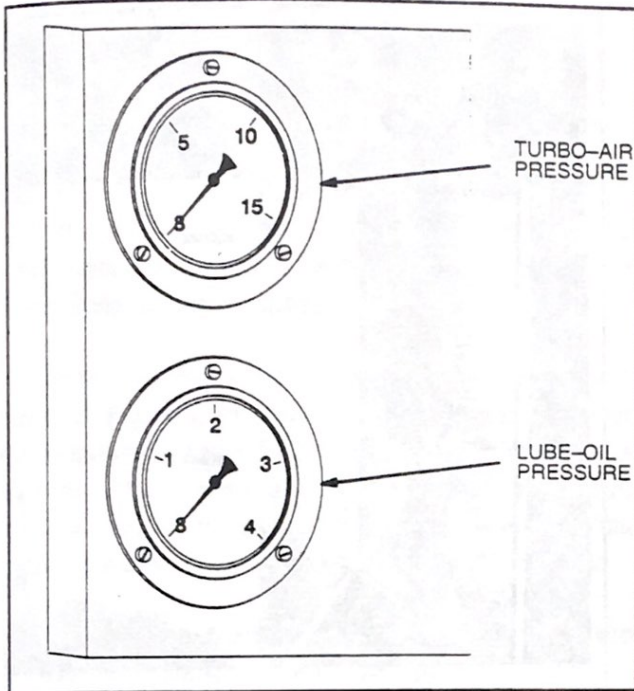

FIG. 43. GAUGE PANEL IN ENGINE COMPARTMENT. E-41135.
4. Turbo-Air Pressure Gauge (Fig. 43) – Located near the engine Start Station. Normal reading at full engine speed and full load is approximately 30 psig.
A Lubricating-Oil Pressure Gauge (Fig. 43) is located near the engine Start Station. Normal reading at IDLE is approximately 30 psig and at full load is approximately 100 psig.